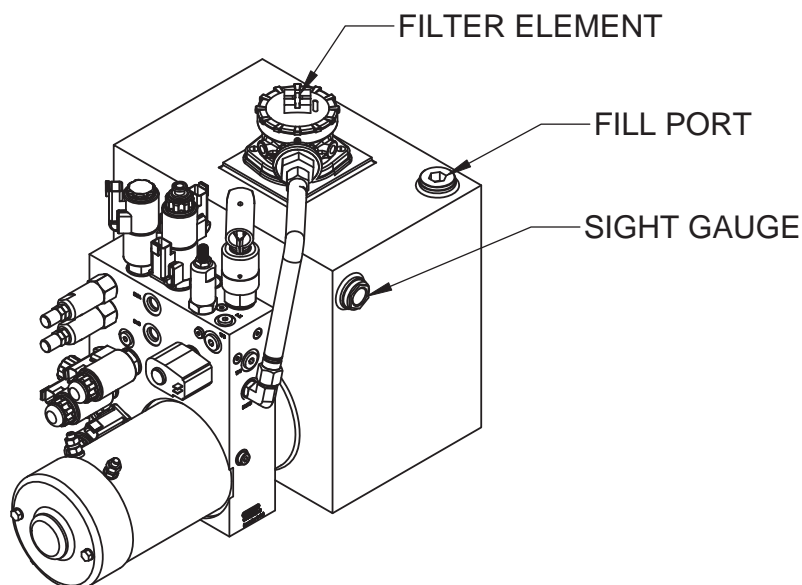

Figure 4-3. Hydraulic Reservoir
- If the hydraulic oil level is not visible to at least half way up the sight gauge, add clean Hydraulic Fluid while the boom and outriggers are fully retracted and “stowed”. Pour slowly to avoid creating air pockets in the reservoir. **DO NOT** fill above the sight gauge. Overfilling the hydraulic reservoir may cause damage to hydraulic lines and may result in aerial work platform malfunction. Refer to Figure 4-3.